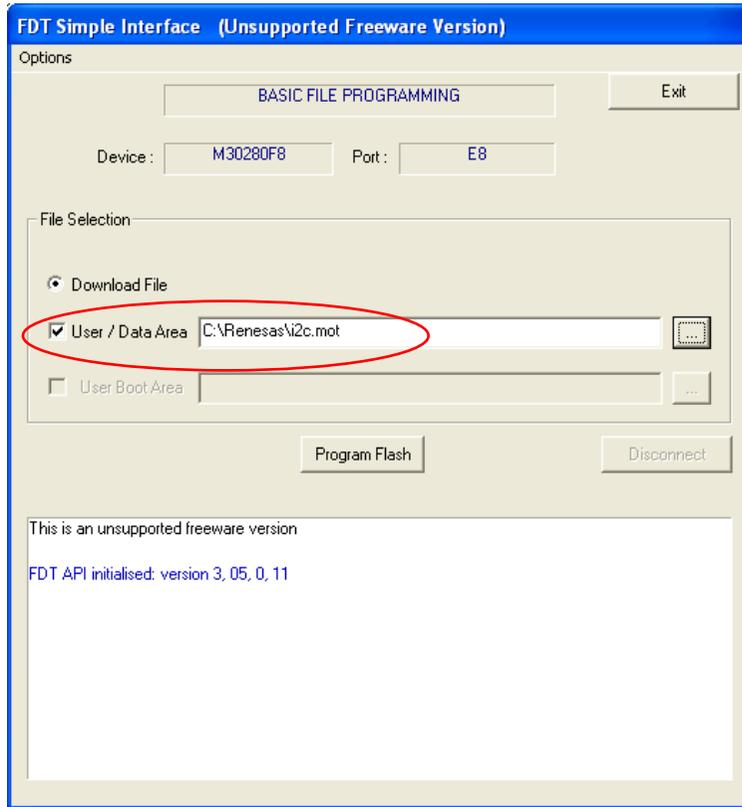

Figure 79:
5. Start Up Mistral and upload the FDT BASIC onto your computer then browse for the relevant file - *.mot (Figure 79)